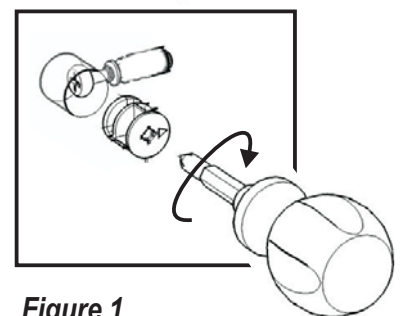

Figure 1
Attach Fixed Shelf (F), and Base (E) to Side Panel (B) with Cam Locks (see Figure 1).